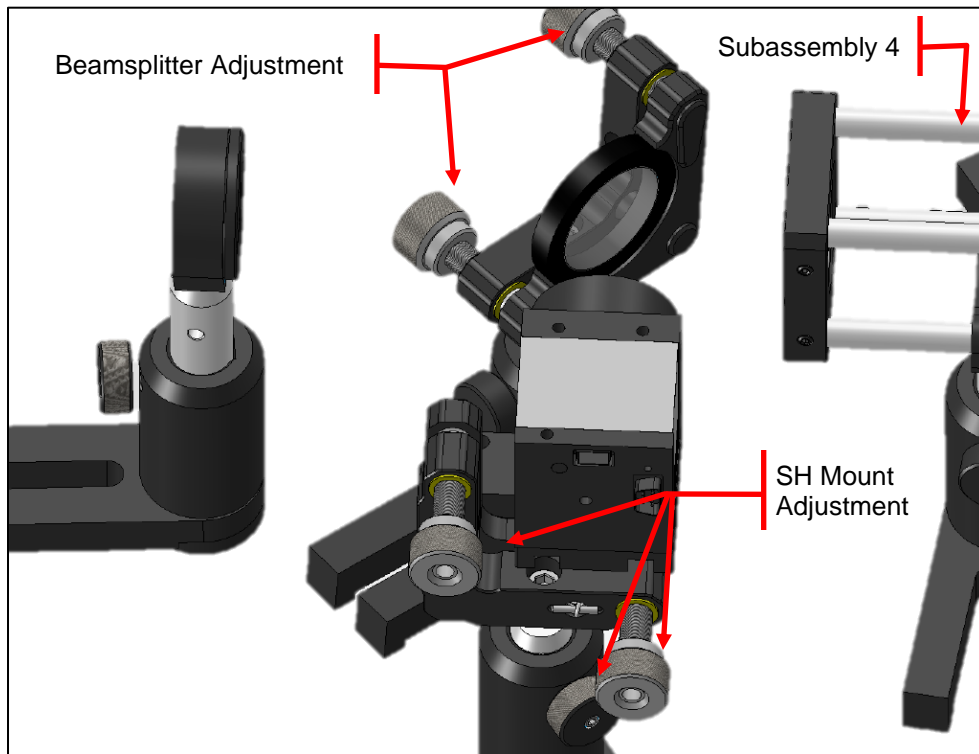
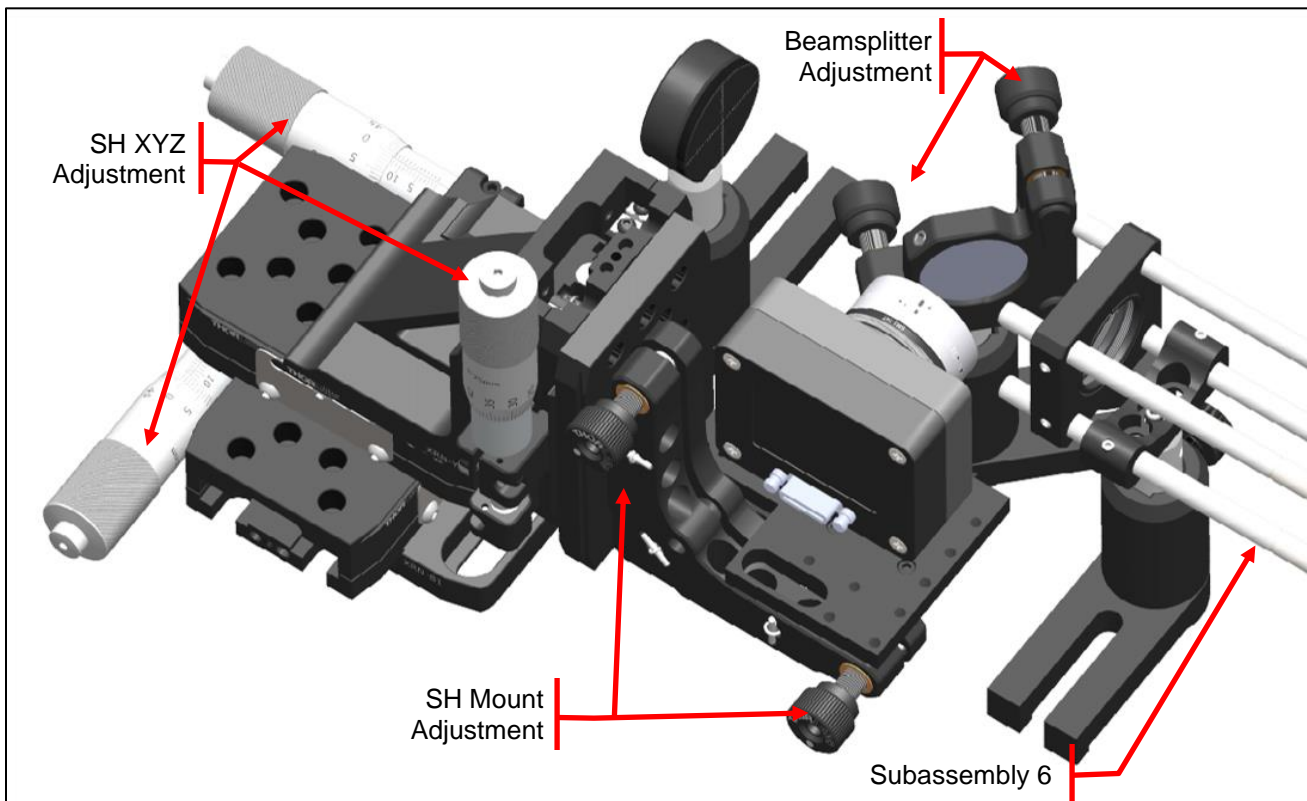

Figure 172 AOK5 SH Sensor Alignment Diagram
Figure 173 AOKWT SH Sensor Alignment Diagram
- b) Once the field is relatively centered on the screen, use the kinematic adjustment for fine alignment of the beam (refer to Figure 172 or Figure 173 for knob adjustment information).